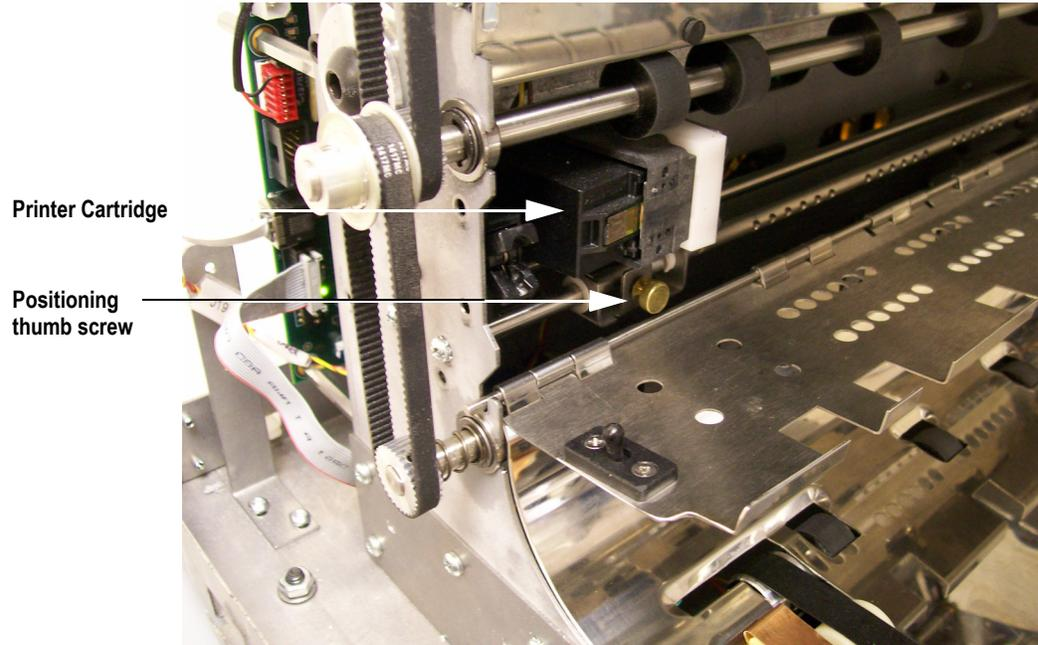

FIGURE 31: Accessing the printer cartridge
- 3 Access the printer cartridge (refer to Figure 31).